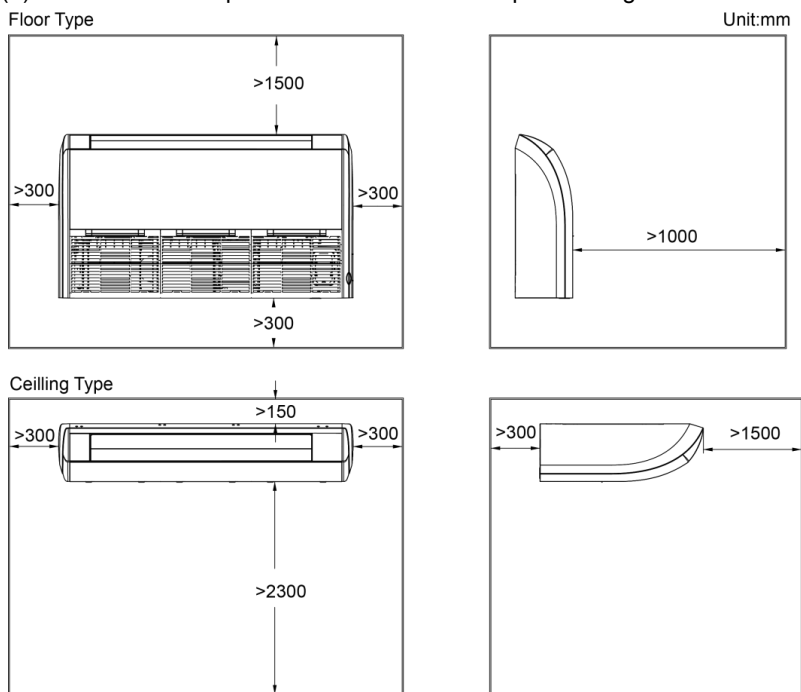

Fig. 2
- (1). Install the unit at a place where is strong enough to withstand the weight of the unit.
- (2). The air inlet and outlet of the unit should never be clogged so that the airflow can reach every corner of the room.
- (3). Leave service space around the unit as required in Fig. 2